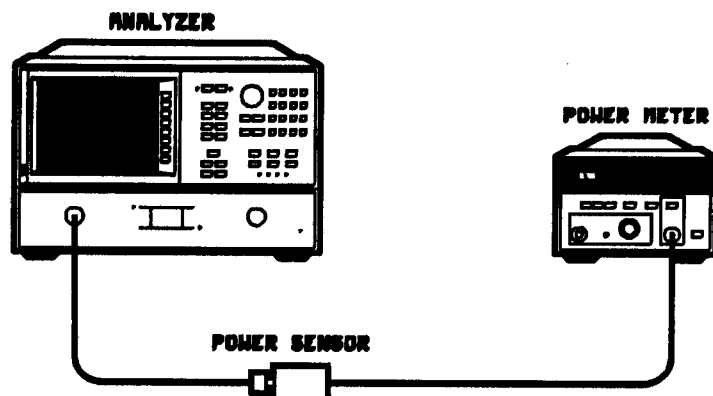

Figure 5-10. Power Linearity Correction Constants
4. Calibrate the power meter. Remove the frequency counter and connect the power sensor to the same point. Adjust the low band power level (see Figure 5-10) so that the power meter displays 0 dBm.
2. Calibrate the power meter and connect it to port 1 (see Figure 5-10).